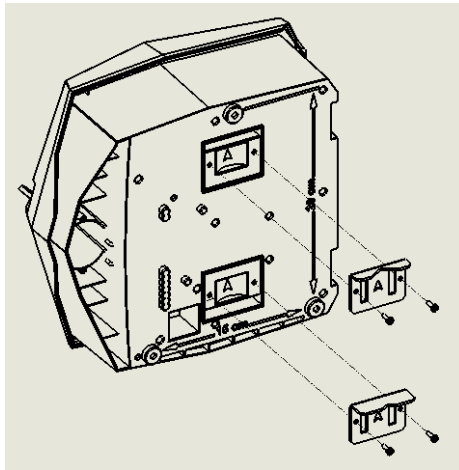

Figure 10: Correctly Oriented Pole Mounting Brackets
**Note:** If the two brackets are correctly oriented, their small flaps will be facing outward and the arrow icons on both will point upwards (see Figure 10).